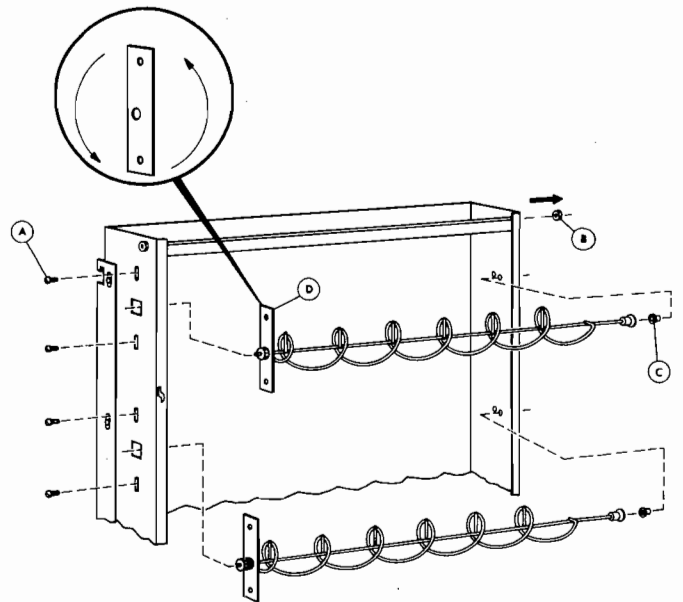

Figure 12 (Changing to a 9 ounce cup)
3. Remove the two screws (Figure 12) on each of the upper spirals. These screws hold the bearing plate for the spiral and are found on the left hand side of the magazine, as you face it. (Illustration Section D)